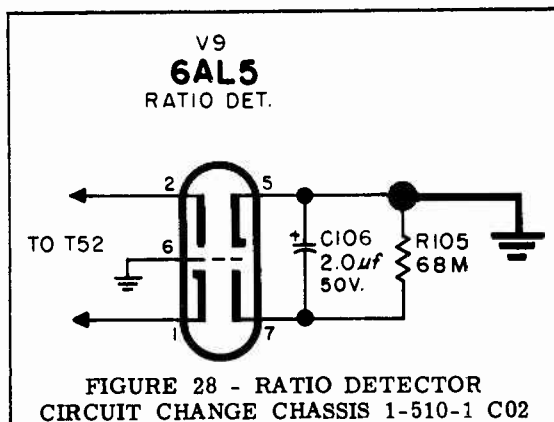

FIGURE 28 - RATIO DETECTOR CIRCUIT CHANGE CHASSIS 1-510-1 C02
1. C106, 2 Mfd. capacitor and R105, 68M ohm resistor are now connected as in Figure 28 to prevent possible sound interference in the picture at high volume levels.